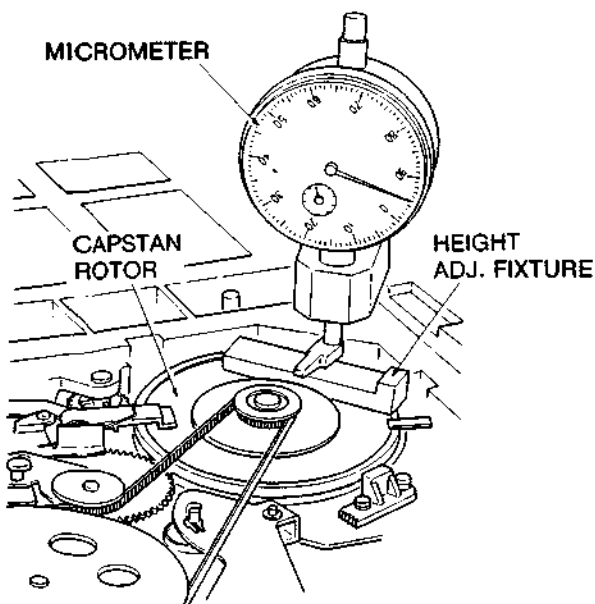

Fig. 2-9
- Set the height adjustment fixture on the capstan rotor unit, see Fig. 2-9.
- Place the height fixture on the tape deck chassis and the foot on the longest side of the height fixture. Set the meter to "0" (reference position), see Fig. 2-9.